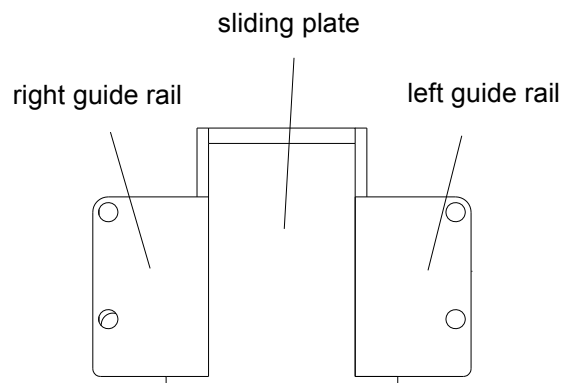
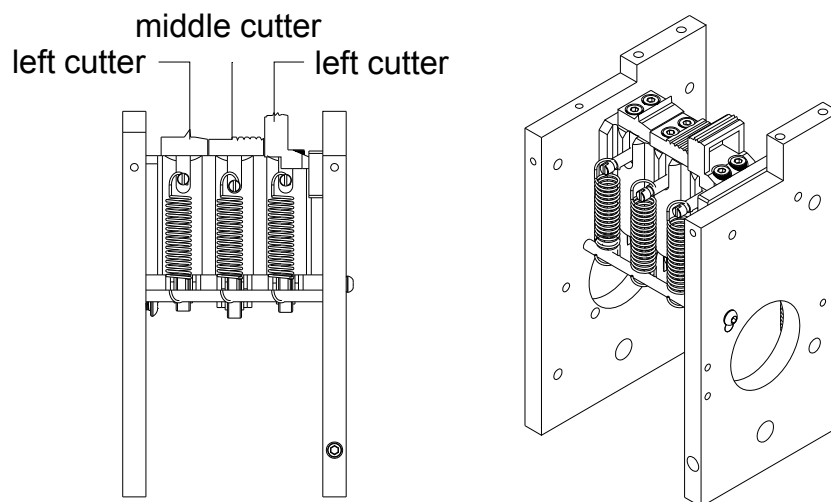

FIG 3-3
FIG 3-4
- ① Slide plate (refer to FIG 3-3), left cutter, middle cutter and right cutter (refer to FIG 3-4) should be lubricated with oil monthly.
- ② The place with the shaft and core bearing should be lubricated with oil once every 3 months.
- ③ Engine oil in the gearbox of the decelerator should be supplemented once every year.
- ④ Please notice that the following parts cannot be lubricated with oil:
- Sliding plate: (Refer to FIG 3-3). Between the sliding plate, the left guide rail and right guide rail should fit exactly and the front movement of the sliding plate must be smooth. Therefore this position especially, needs to be cleaned and maintained. The cleaning procedure is summarized as follows:
- Regarding the left middle and right cutters, all of them must move up and down smoothly at the chamber base, or the machine cannot strap normally. Therefore cleaning and maintenance is very important. The method is as following: (refer to FIG 3-4).